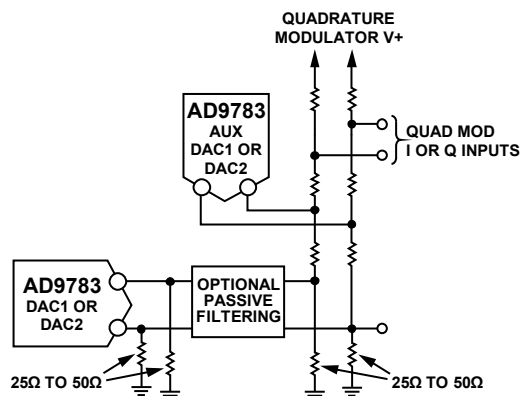

Figure 69. DAC DC Coupled to Quadrature Modulator with Passive DC Shift
In a single sideband transmitter application, the combination of the input referred dc offset voltage of the quadrature modulator and the DAC output offset voltage can result in local oscillator (LO) feedthrough at the modulator output, which degrades system performance. The auxiliary DACs can be used to remove the dc offset and the resulting LO feedthrough. The circuit configuration for using the auxiliary DACs for performing dc offset correction depends on the details of the DAC and modulator interface. An example of a dc-coupled configuration with low-pass filtering is outlined in the Figure 69.